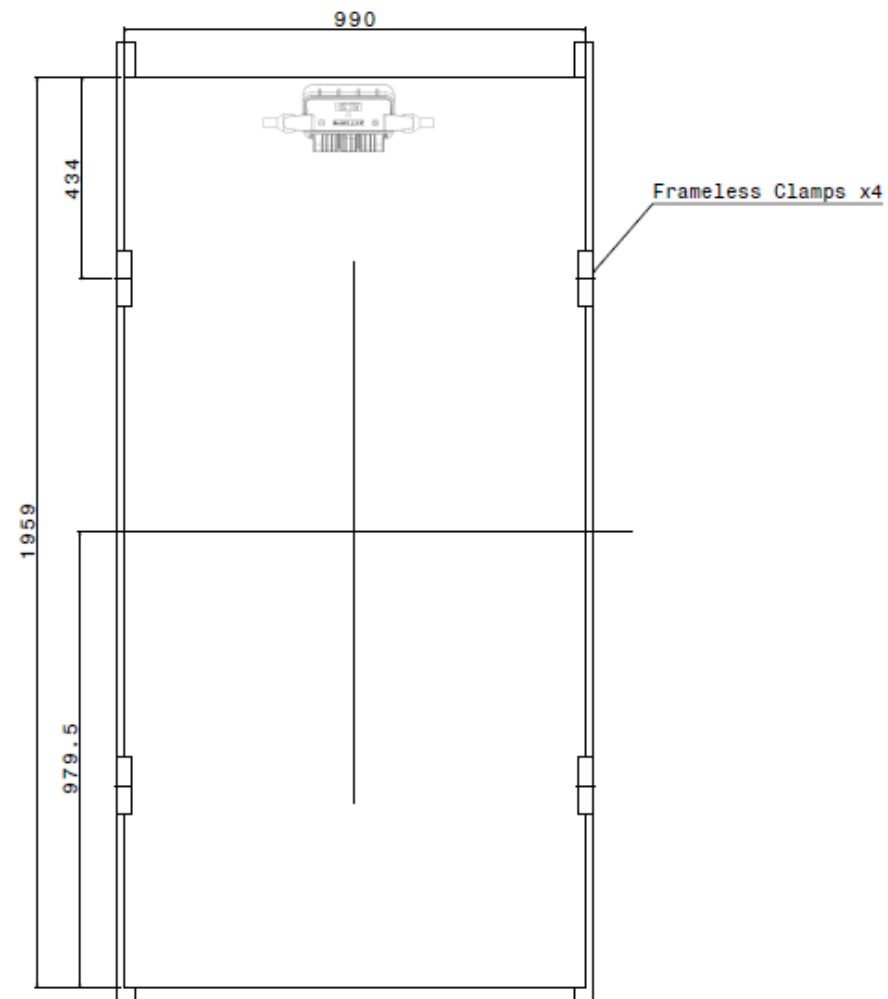

Figure 2 (Parallel Orientation)
- For flat commercial rooftop and utility applications that have significant albedo, the modules may be mounted with rails along the long edge of the module as shown in Figure 2, to minimize module backside shading and maximize the backside bifacial gain. Clamp length should be equal to or greater than 120mm.